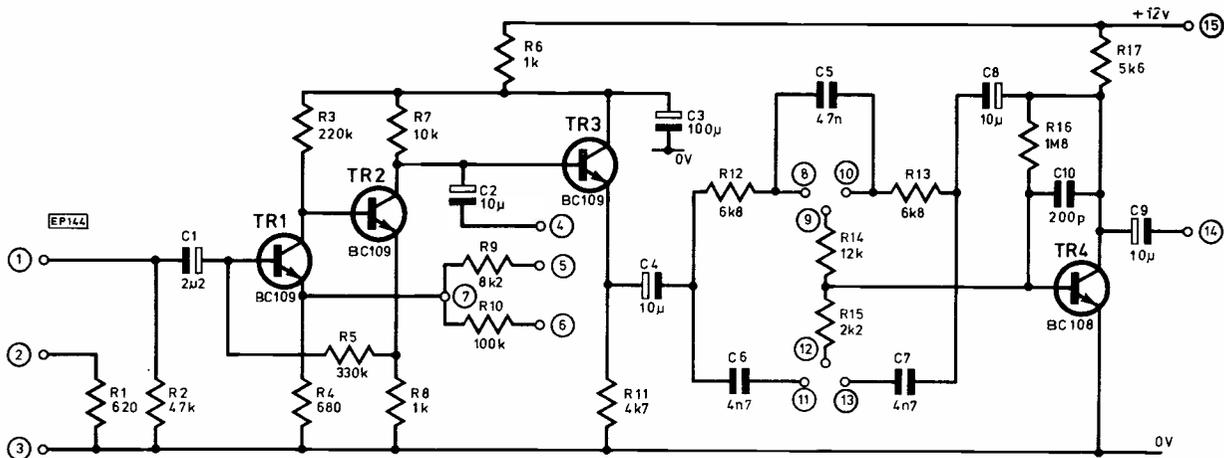

Fig. 2 Preamplifier and tone controls (6 required)
The circuit diagram (Fig. 2) shows TR1 and TR2 in a high gain configuration with two a.c. feedback loops; one from the emitter of TR2 to the base of TR1 and the other from the collector of TR2 to the emitter of TR1. It is this second feedback loop which provides variation in gain in the circuit. With pin (4) connected to pin (7) there is total negative a.c. feedback via C2 therefore the gain is 1. With pin (4) connected to pins (5) or (6) there are gains of 10 or 100 produced respectively. R3, the source resistor for TR2 should be low noise metal oxide type for optimum low noise performance. R6 and C3 provide decoupling for the first three transistors. TR3 connected as an emitter follower buffers the output from TR2 to feed into the tone control network. This is of the standard Baxendall type with VR1 providing bass boost and cut and VR2 providing similar functions for treble.